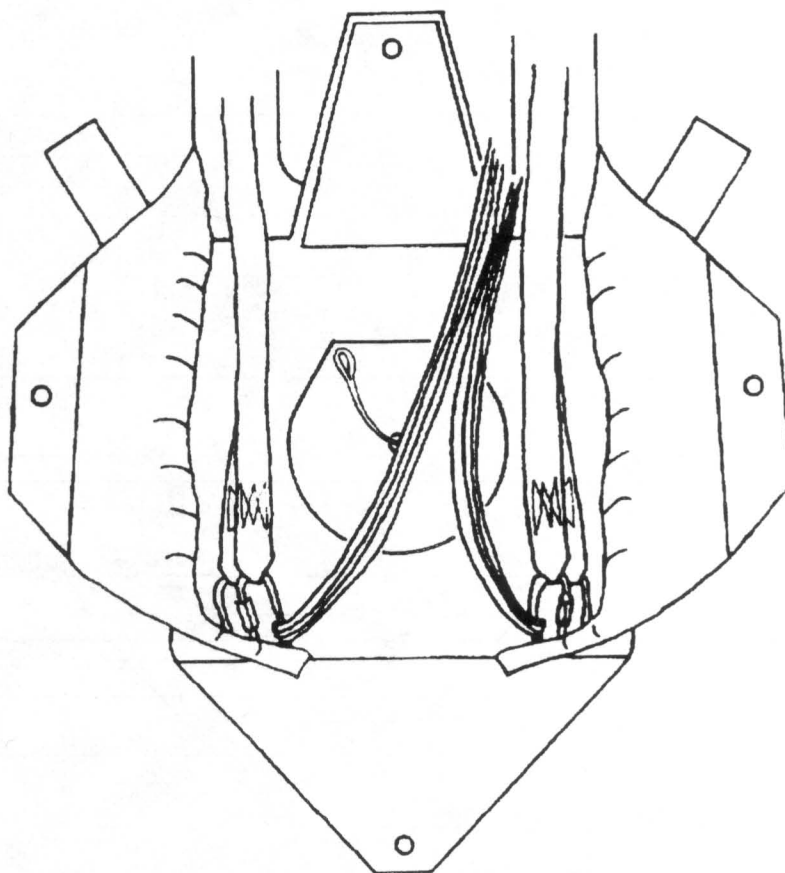
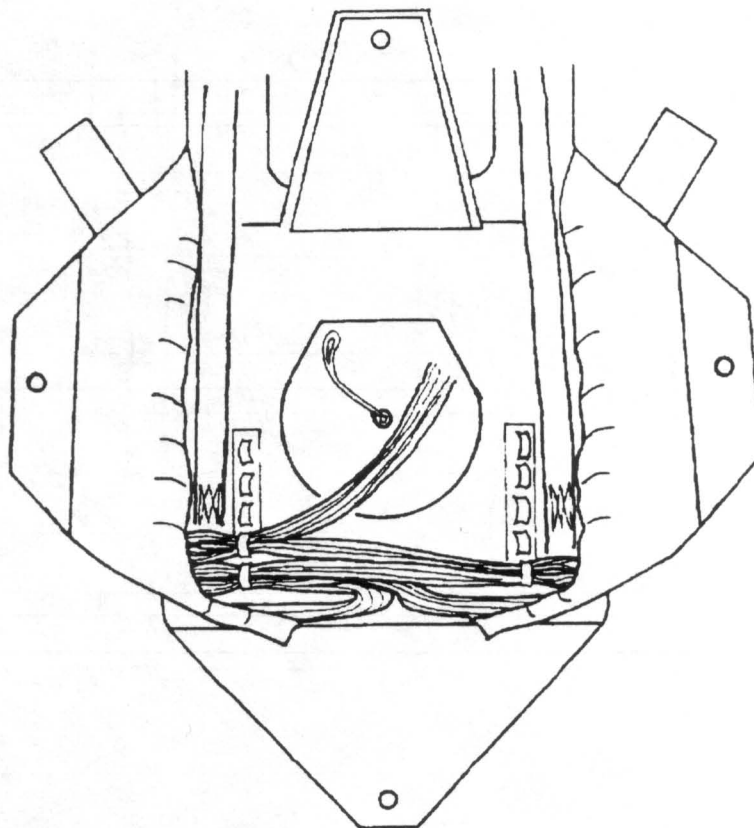

FIG. 2
FIG. 3
- 4a) If the canopy is equipped with a full diaper, all stows of the suspension lines will be made on the diaper. Do this in accordance with the canopy manufacturer's directions. Then lay the risers in the reserve container so that the connector links are in the lower corners (FIG. 2), and go to STEP 5.
- 4b) If the reserve canopy has no diaper, or is equipped with only a partial diaper, the suspension lines must be stowed in the container. Lay the risers in the container so that the connector links are in the lower corners (FIG. 2), and make the first stow of suspension lines in the lower left corner. Continue upward, making the stows the full width of the pack tray. (FIG. 3)